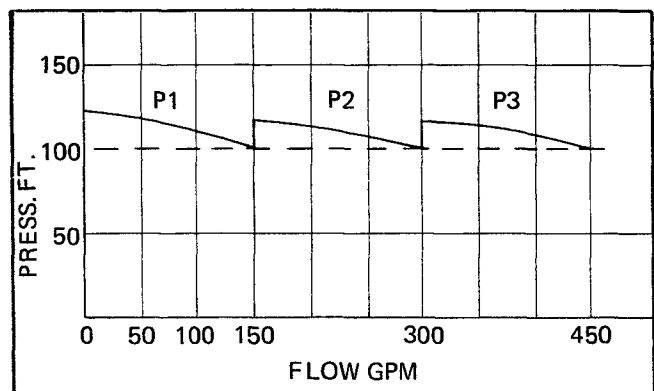

Figure 1. Typical Flow Triplex System
Your triplex system is identical in principal to the duplex operation explained previously, but has a third pump available when the first two (2) pumps can't handle the minimum pressure required at high flows. These lag pumps are automatically started and stopped as the system flow increases and decreases. (See Figure 1)